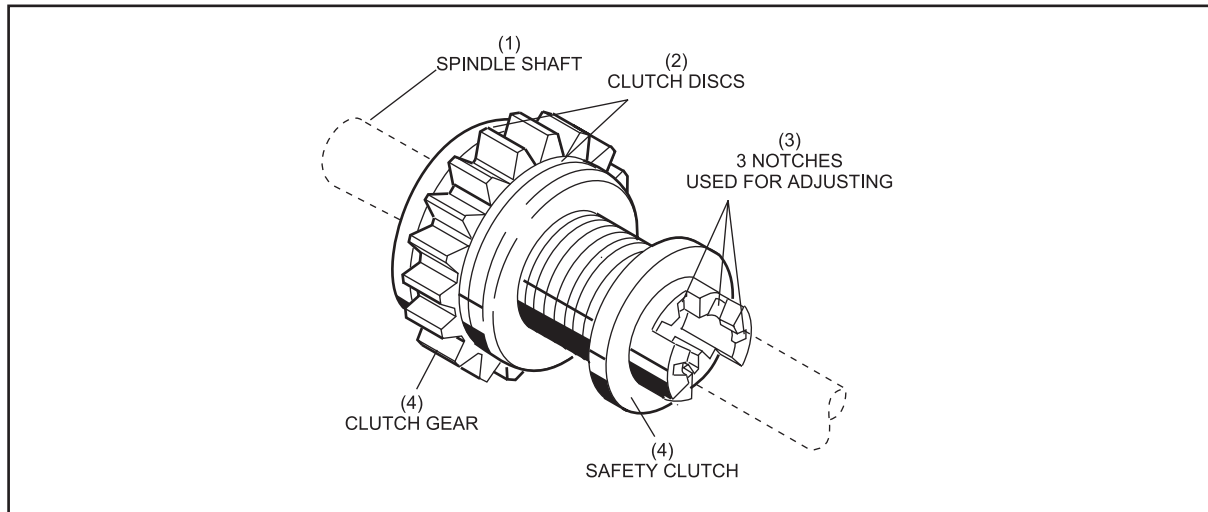

Figure 8-10. Reassembling Clutch.
6. Clean all the components with a water based cleaner and a dry towel. When reassembling the clutch, position the shiny sides of the two clutch discs to contact the clutch gear. *Figure 8-10.*